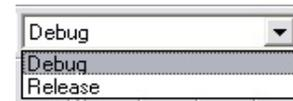

Figure 2: Debug Configuration
8. Select the “Debug” build configuration in the left hand drop down list on the tool bar. (Figure 2)